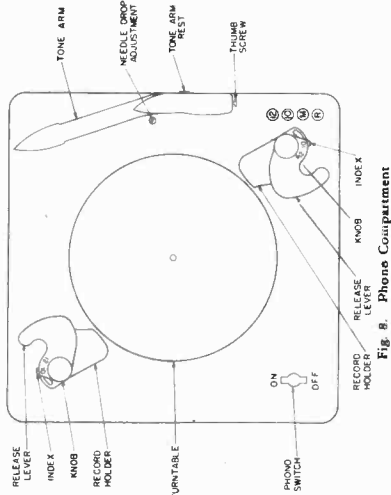

Fig. 8. Phone Compartment
A. ADJUSTING LANDING POSITION OF NEEDLE ON THE RECORD. (See Fig. 8.) This adjustment is made with a screw-driver from above—does not require removing Record Changer from cabinet. If needle comes down too far from edge of record, playing of records will not start at their beginning. Turn Needle-drop Adjustment Screw very slightly counterclockwise. If needle comes down too close to edge of record, needle may slip off edge of record. Turn the adjusting screw clockwise.